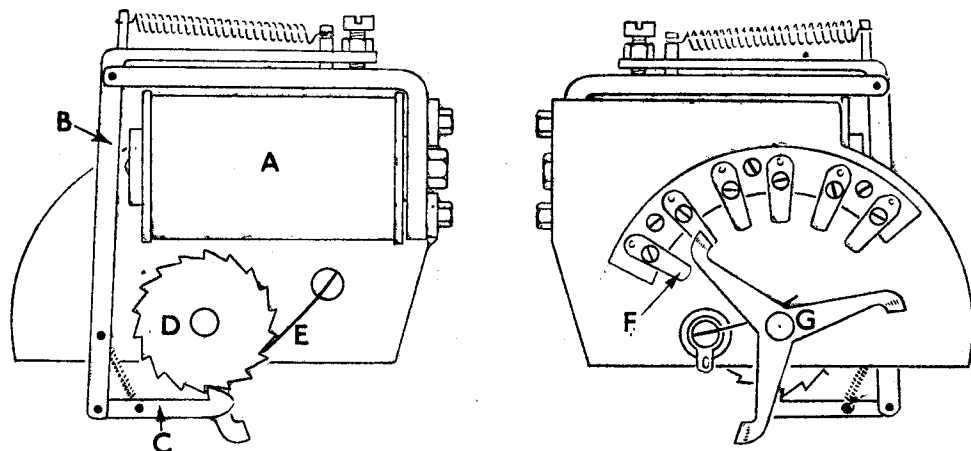

Fig. 8. Circuit selector. The overall width is about $3\frac{1}{4}$ in.
The construction of a selector is shown in Fig. 8. A is an electromagnet and B its armature carrying the spring-loaded pawl C. This rotates wheel D which is provided with a detent E. It will be seen that the electromagnet does not shift D directly—the wheel is rotated on the backward, spring-impelled movement, and this is important. I have not been able to make a selector work satisfactorily except on the backward movement where the impulse (being generated by a spring) is constant. If the action is reversed, a new battery with its increased power tends to make the wheel overshoot; one of the essentials in construction is accuracy, so that the wiper arm stops quite positively on each contact.
Selectors are available in the surplus market, but as they often have four or more banks of wipers and contacts, they use about 12 W of power and are unduly large. Useful ones may, however, be made fairly simply on the lines shown in Fig. 8 the moving parts being of steel and the frame aluminium. Soft-iron is used for the magnetic circuit. It is normally necessary to use rather small teeth on the wheel and one generally finds that the number of circuits to be controlled is fewer than the number of teeth (i.e., steps). It
is usual, therefore, to make the number of teeth a multiple of the steps required and to fit two, three or four wiper arms. Fig. 8 shows 18 teeth, 6 contacts (F) and 3 wiper arms (G) a convenient arrangement giving control over 6 circuits.